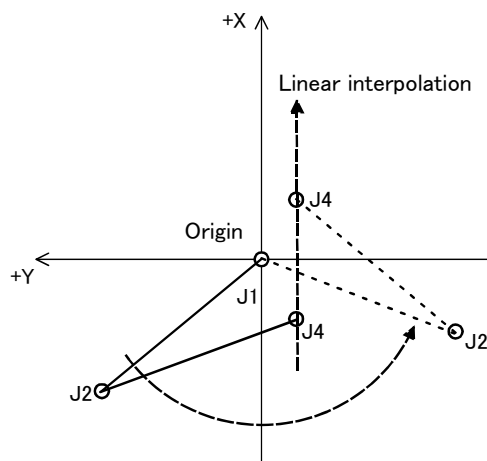

Fig.4-38: Passing through near the origin point
- (1) When performing a XYZ interpolation operation while maintaining the speed of the control point, the J1 axis must rotate at a faster speed when passing through a point near the origin point O (one of the robot's singular points) as shown in Fig. 4-38, causing an excessive speed error depending on the specified speed. If SpdOpt On is executed, the speed is adjusted automatically in order to prevent an excessive speed error from occurring.